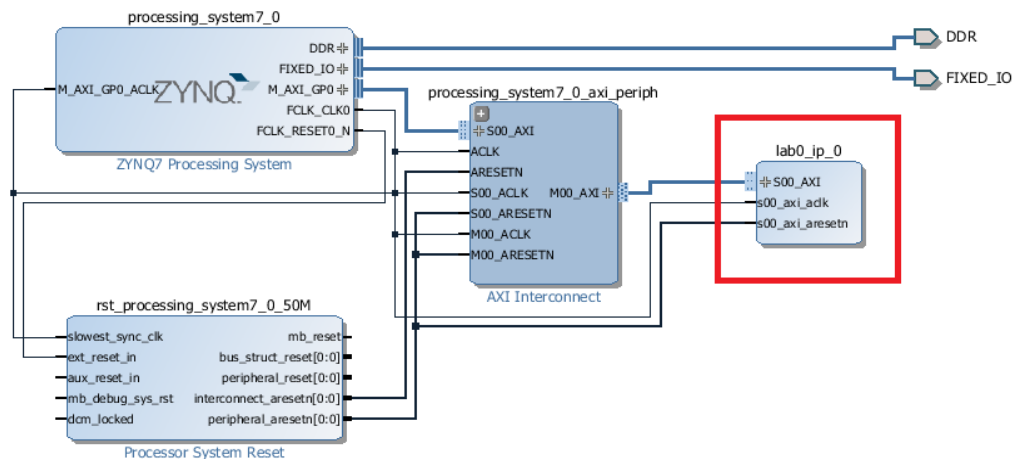

Figure 3-6: Step 3.11, Adding Custom IP to your high level design
- 3.11. Select the “**Run connection automation**” to the s00_AXI of the Custom IP that we just created. The end result should resemble that shown in Figure 3-6.